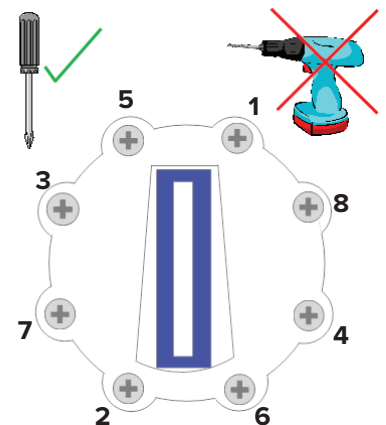

Fig 1.7
8. Using a hand Phillips-head screwdriver, slowly tighten the screws in a diagonal pattern, per the diagonal sequence shown in Fig.1.7. Do not fully tighten one screw before proceeding to the next, i.e., pull them down slowly multiple times to avoid stressing and cracking the lid. Screws should be tightened to a final torque of 25 in./lbs. or 2.8 Nm. **Disclaimer: Under no circumstances should the screws in the FlowVis lid assembly or sensor be tightened with an electric screwdriver in the 'drill' setting. This can result in a cracked lid or sensor and will void the product warranty.**